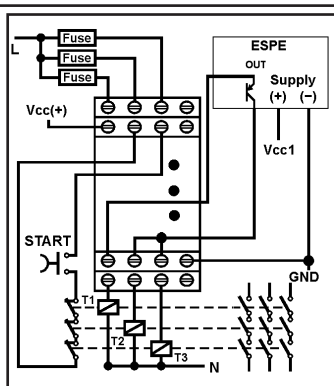

Fig. 9: ESPE 1 uscita PNP a 2 fili /
- ESPE with one PNP two-wires output (e.g. optocoupled PNP-type): connect the emitter output to the S21 terminal and the collector output to the S11 terminal; short-circuit S11 with S22, leaving S12 not connected (fig. 9 max. Safety cat. 2).
In Fig. 9 and 10 are shown the connections of ESPE with 1 two-wires output: one ESPE output wire is connected to S21, while the other is connected to S11 and S11 is short-circuited with S22.